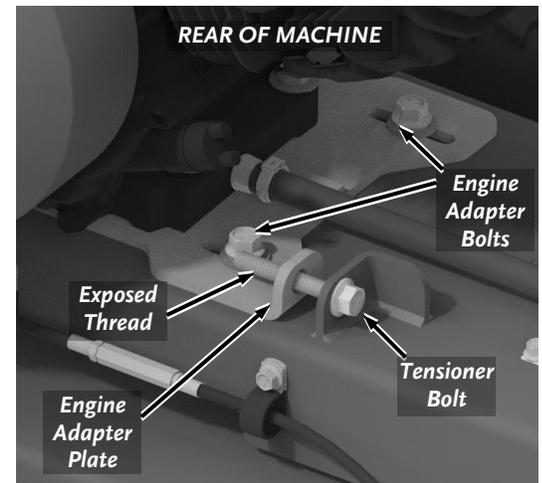

Figure 18
3. Loosen the Tensioner Bolt using a 9/16" Wrench until there are no more Exposed Threads past the Engine Adapter Plate (**Figure 18**).
4. Loosen the four Engine Adapter Plate Bolts using a 9/16" Wrench. There are two Bolts in the front of the Engine and two Bolts behind the Engine (**Figure 18**).
11. If the measurement is not correct, tighten or loosen the Tensioner Bolt as needed (**Figure 18**).